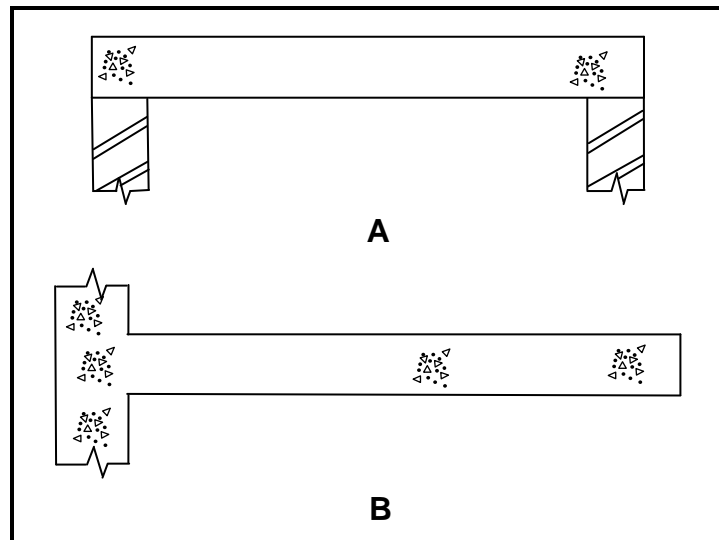

FIGURE 2.2
2.2 FIGURE 2.2 below illustrates two types of beams.